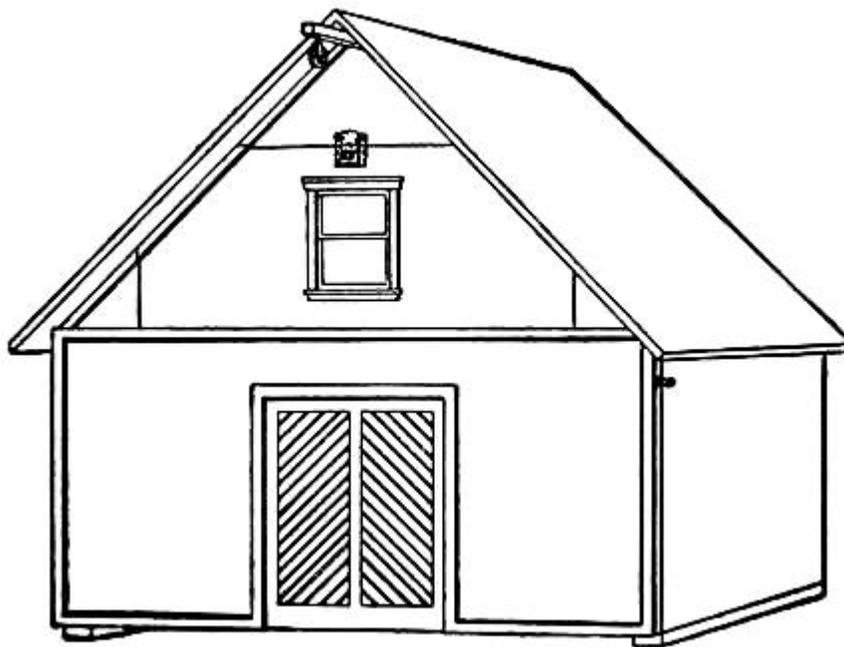

FIG. 114.—Exterior of Stable.
**Feed-hoist** (see Fig. 114).
**A Drop-front**, as shown in Figs. 114 and 115. This is made from the box-cover. Fasten the boards together with battens placed upon the inside, and hinge it to the bottom of the stable. Nail two cleats to the under side of the floor (see Fig. 114) to lift it off the ground, just enough to allow the front to drop without springing its hinges.
**Represent a Stable Door** on the outside (see Fig. 114). This is done with paint and a fine brush. First paint a green panel in the centre of the front, and then mark off a couple of panels within this space with black paint, and stripe them diagonally to represent beaded-boards.